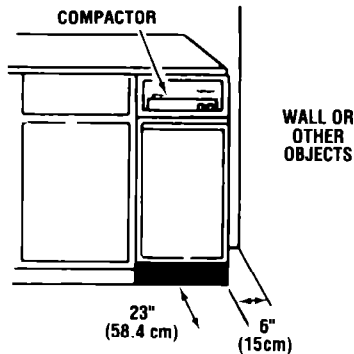

FIGURE 2
2. Your compactor is designed for recessed installation. A six (6) inch (15cm) clearance from the right edge of the drawer front is desirable for added convenience in bag removal. Also allow twenty-three (23) inches (58.4 cm) in front of the appliance for drawer removal. See Figure 2.